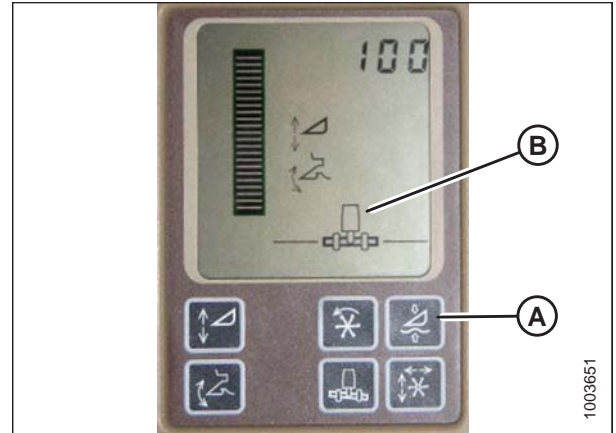

Figure 7.247: John Deere Combine Display
Do **NOT** use the active header float function (A) in combination with the MacDon auto header height control (AHHC)—the two systems will counteract one another. The header symbol (B) on the display should **NOT** have a wavy line under it and should appear exactly as shown on the Active Header Control Display in Figure 7.247, page 279.